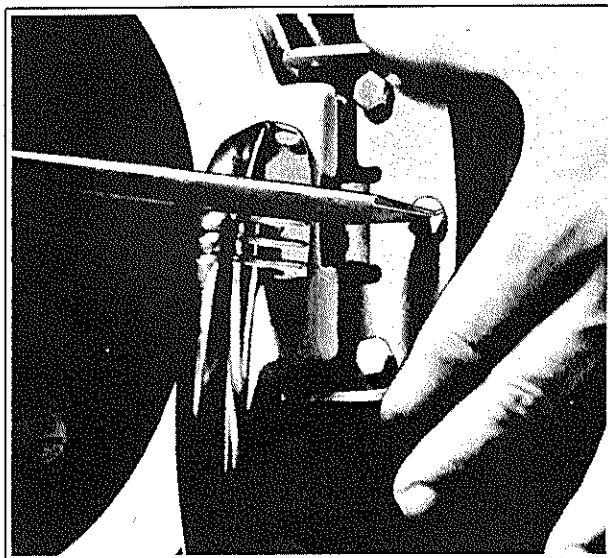

Figure 7
2. Close and latch door and adjust bracket vertically until door handle stops in straight up and down position when fully latched. See Fig. 7.